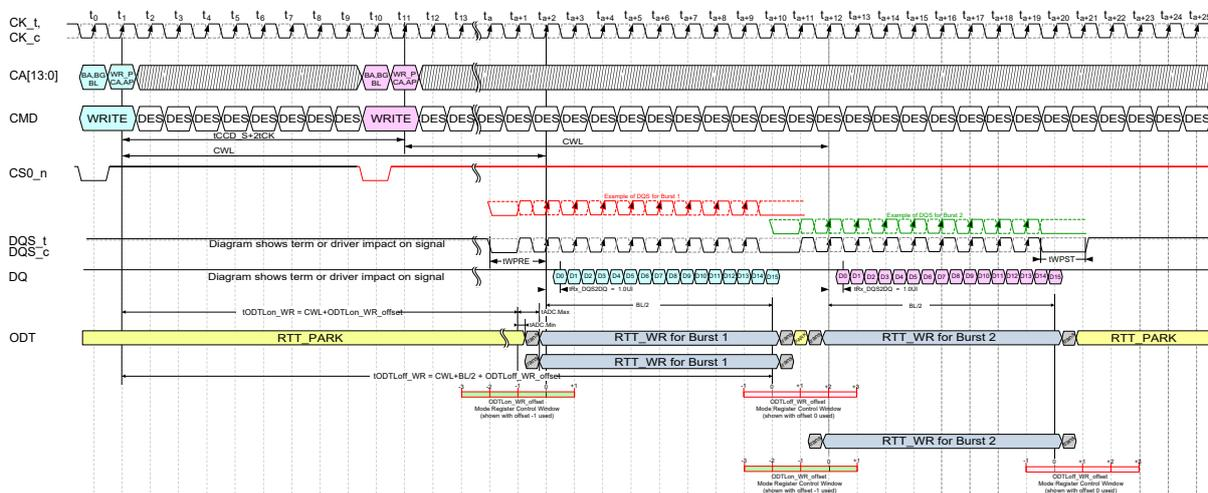

Figure 199 — WRITE (BL16) to WRITE (BL16), Different Bank, 2 tCK Gap
When there is a 1 tCK ODT control gap for any ODT operation (such as shown in Figure 199), the said gap's RTT value will be the same or smaller (stronger termination) than RTT_PARK.
7. When there is a 1 tCK ODT control gap for any ODT operation (such as shown in Figure 199), the said gap's RTT value will be the same or smaller (stronger termination) than RTT_PARK.